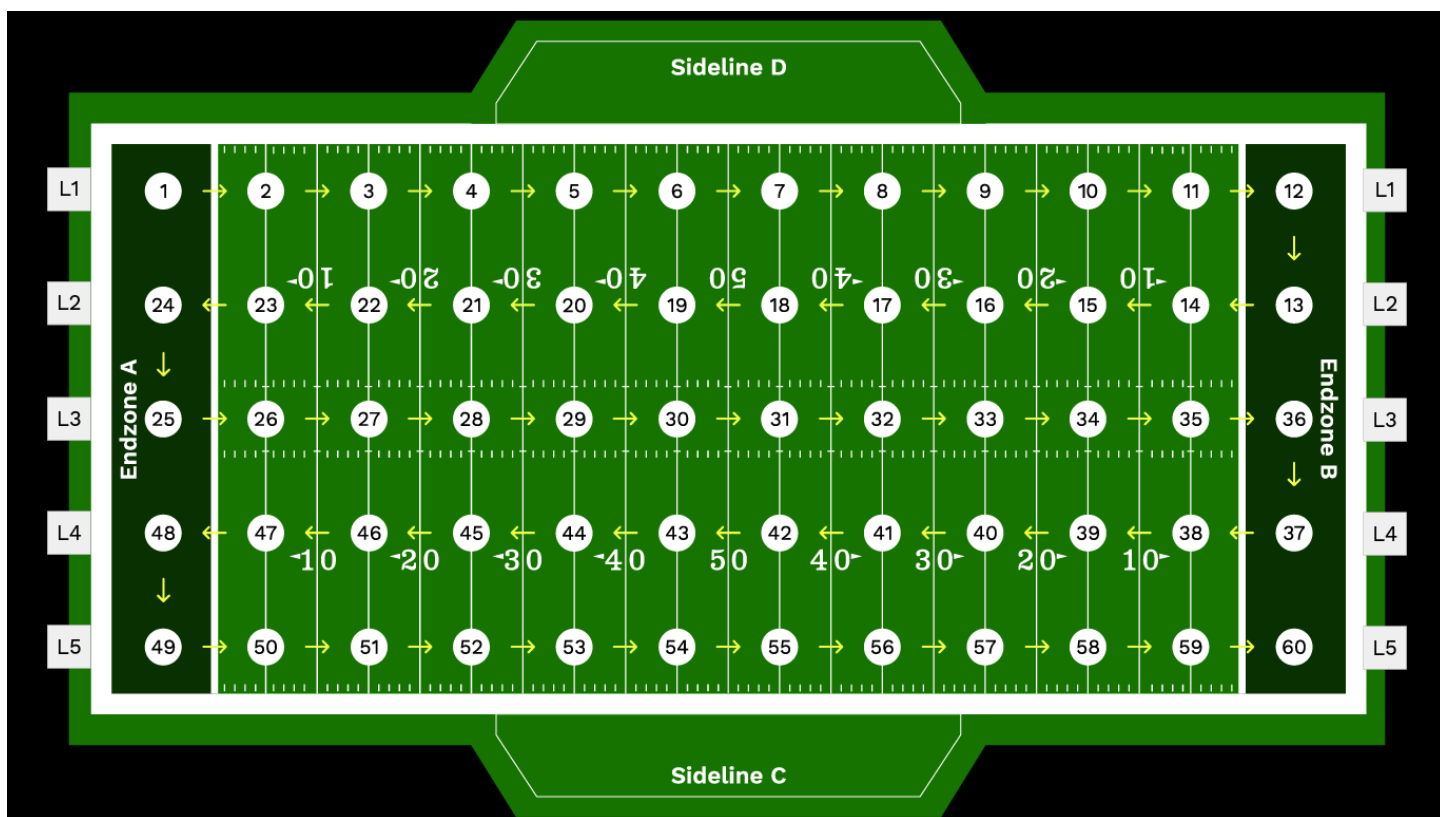

Figure 14. Location of End A, End B, Side C, and Side D for reference when identifying locations to be tested with the BEAST.
7. Within a given stadium field, start the test at location #1 as shown in Figure 14. Ensure the highlighted test location on the field diagram matches the BEAST's physical on-field location. Press **Next Location** or **Previous Location** to adjust if needed;
8. To begin, select **Start Sequence**. The device will run through all pre-selected tests. Once tests are completed, **and only when the frame is raised**, move to the next test location as indicated in Figure 14. When at the next test location, select **Start Sequence**. The BEAST will repeat the pre-selected tests. Repeat until all test locations are completed;
Test events shall include all test locations within the playing field (locations 1-60; Figure 14). Aside from conducting the testing and uploading the results, at present there are no compliance criteria for the magnitude of traction recorded during the on-field cleat-surface traction testing.